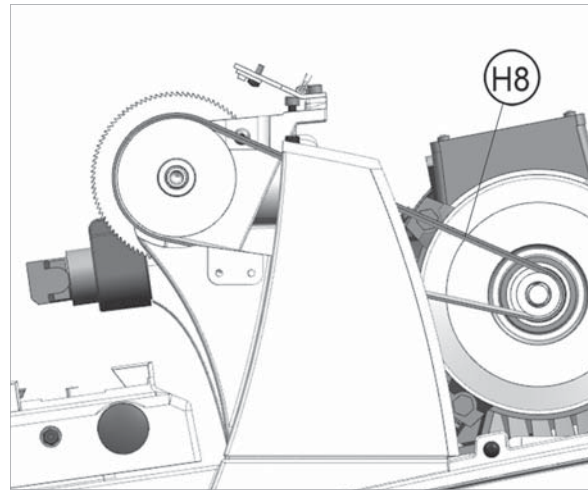

Fig.82
- 9) Remove the belt (H8) and fit a new belt into the two pulleys (Fig.82).